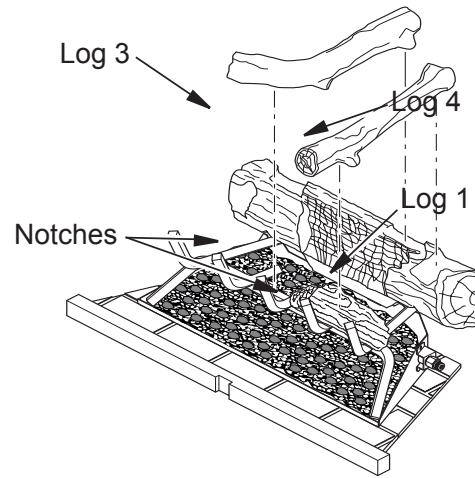
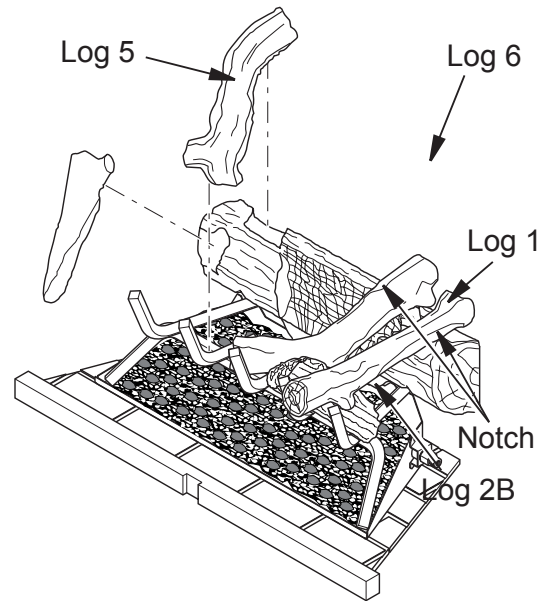
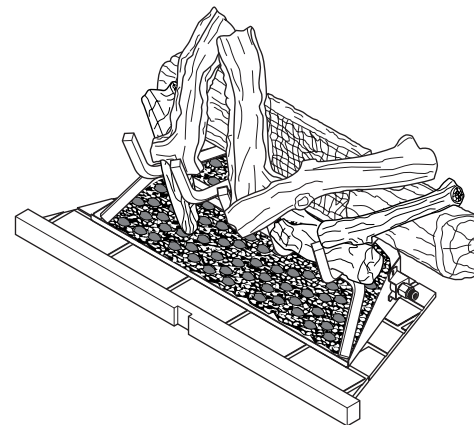

Figure 28 - Installing Logs 3 and 4
Figure 29 - Installing Logs 5 and 6
Figure 30 - Logs Installed for BRT4042TEN/TEP, BRT4342TEN/TEP and BRT4542TEN/TEP Models
3. Place log 3 into notch on top left of log 1, resting lower end on left two grate fingers (see Figure 28).
4. Place upper end of log 4 into notch on log 1 as shown in Figure 28. Rest lower end of log 4 on the middle grate finger as shown in Figure 29.
5. Place upper end of log 5 into notch on top inner right of log 1 (see Figure 29). Rest lower end of log 5 on middle grate finger as shown in Figure 30.
6. Place log 6 into notch on top right of log 1 (see Figure 29). Rest lower end of log 6 on top of log 2B (see Figure 30).